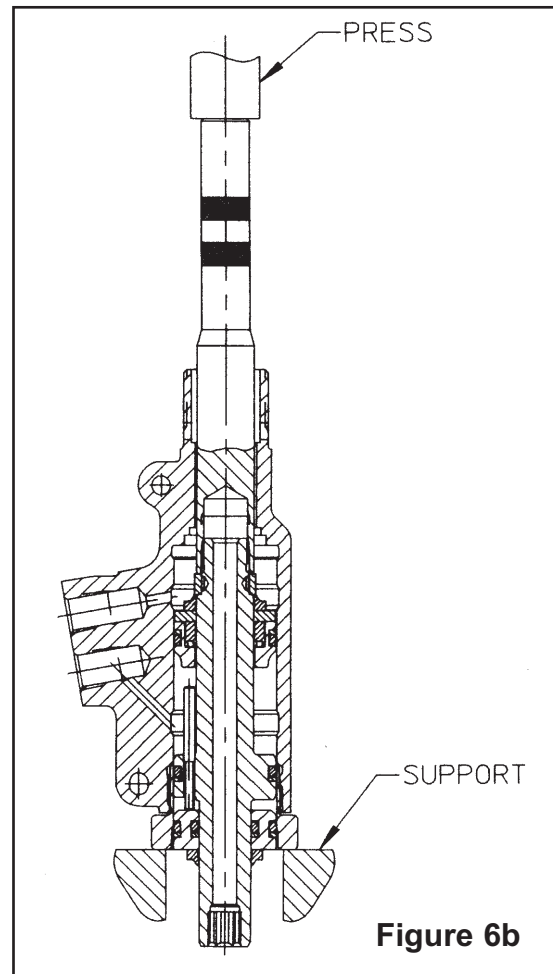

Figure 6b
4. See *FIGURE 6b*. Supporting tool as shown, press (or drive) piston, rear gland assembly, dump valve, and front gland assembly out of cylinder.